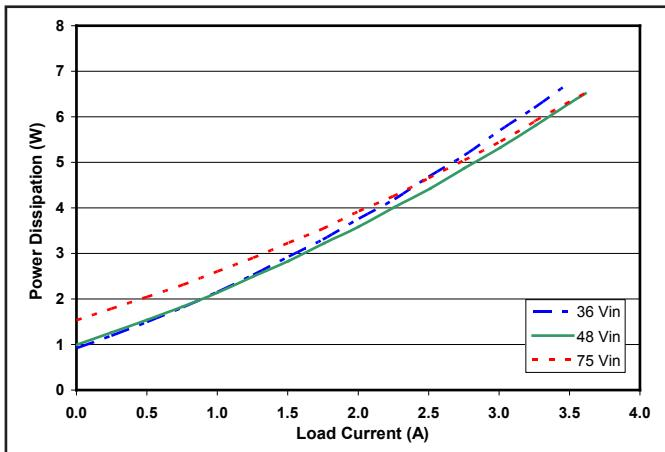

Figure 9: Power dissipation vs. 3.3V load current with hot-swap switch enabled.
- P_H = power drawn from the hold-up capacitor, the sum of the input power of the payload power converter, and the input power of the 3.3V mgmt power converter (see Figure 9):